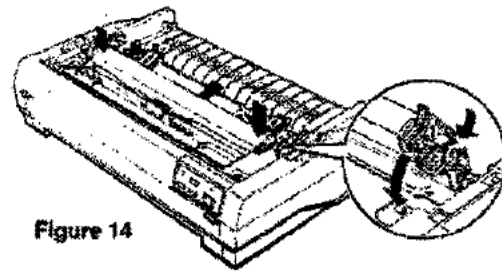

Figure 14
8. Replace the paper-tension unit by placing it on the printer's mounting pegs and lowering it into place. Press down on both ends of the unit until you feel it click into place (Figure 14).